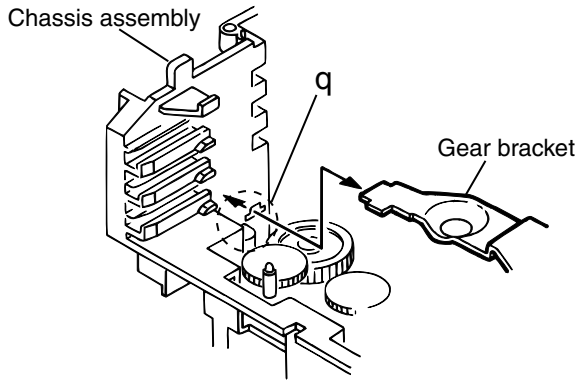

Fig.20
**■ Bringing down the traverse mechanism as shown in the Fig.20**
3. From the notch **q** section on the chassis assembly fixing the edge of gear bracket, remove and take out the gear bracket(See Fig. 20).